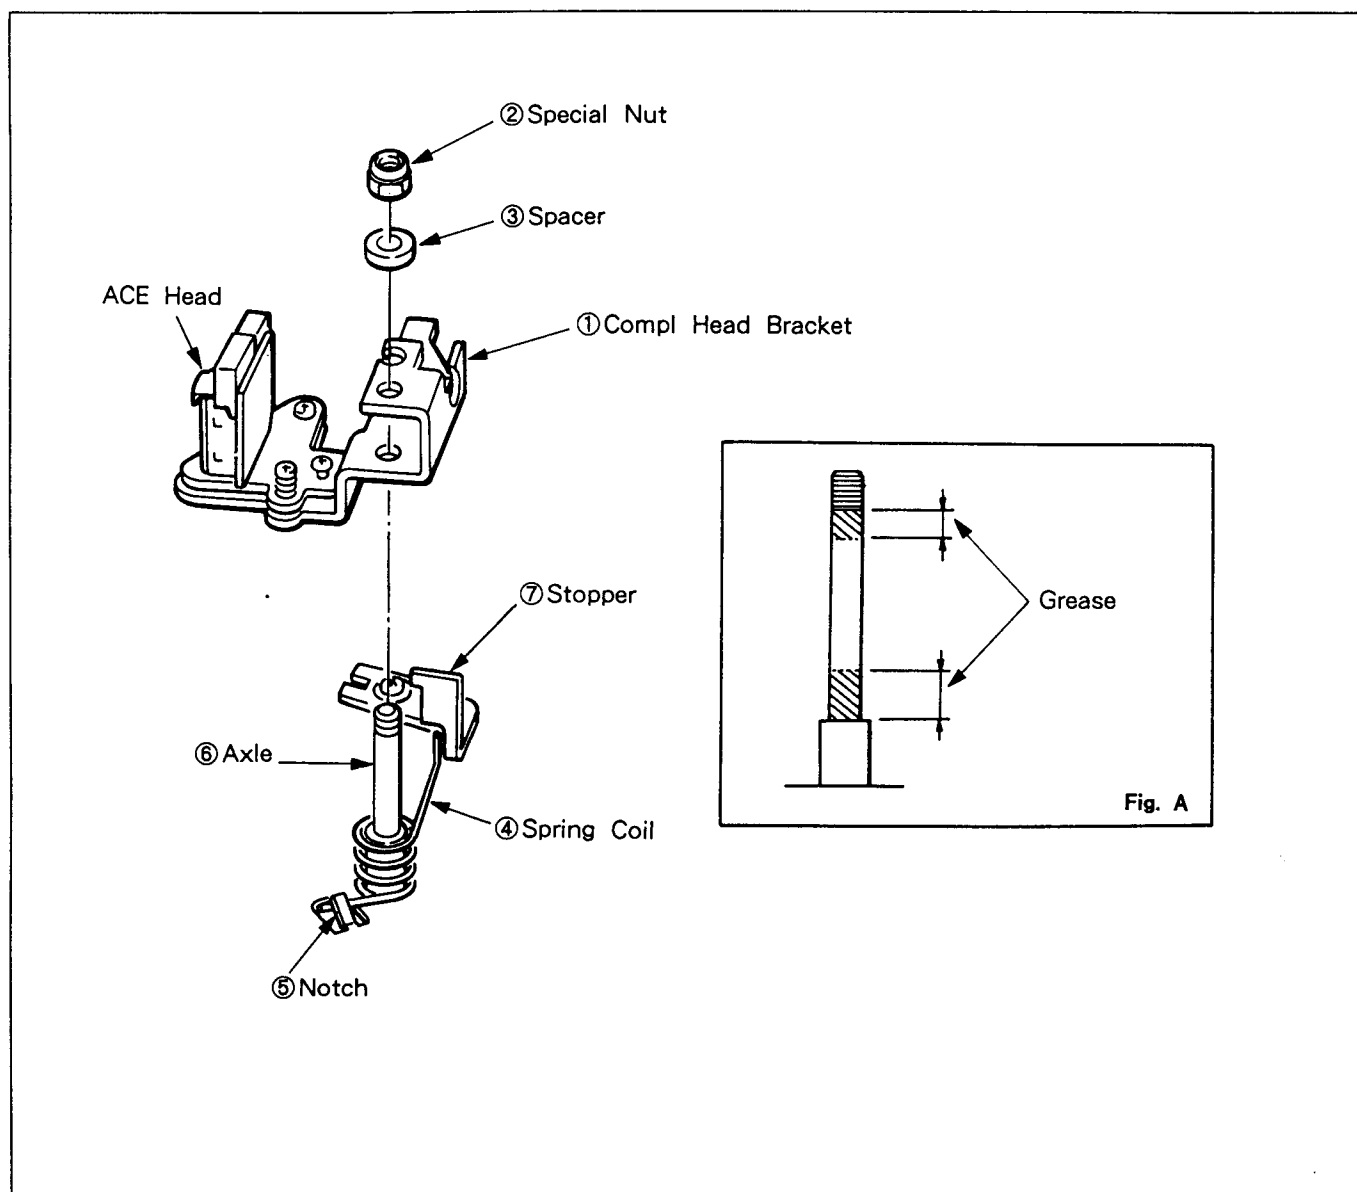

Fig. 2-5-1. Compl Head Bracket (ACE Head)
2.5. COMPL HEAD BRACKET (ACE HEAD) (See Fig. 2-5-1.)